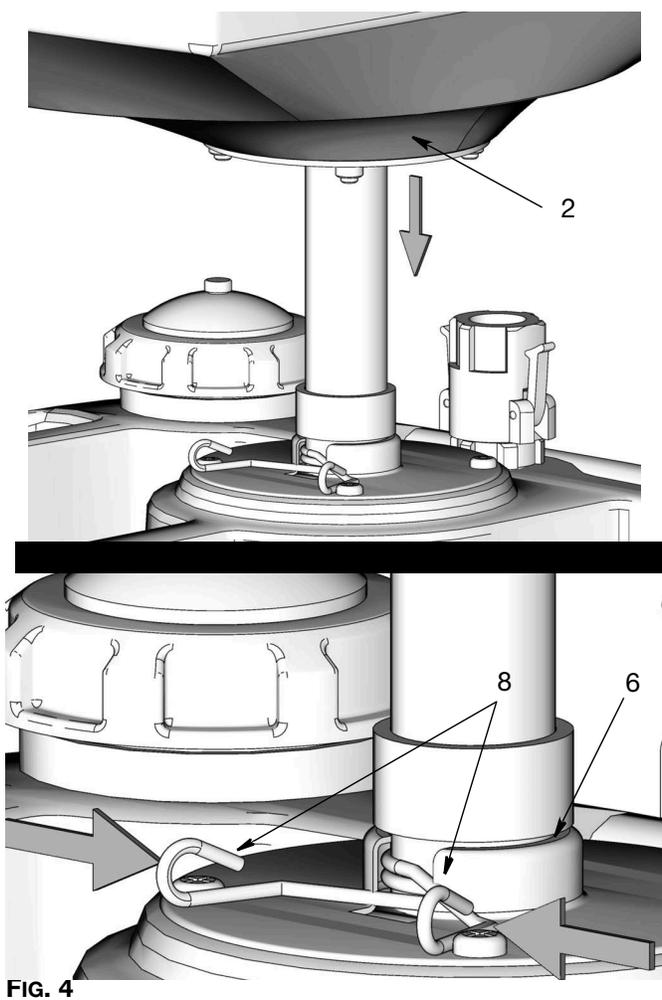

FIG. 4
<p>When compressing the torsion spring (8) do not allow the funnel assembly (2) to freely drop. This could result in your fingers or hand being pinched between the funnel assembly (2) and funnel collar (6). Always support the funnel with one hand whenever you compress the torsion spring (8) to change the funnel assembly position. See FIG. 4.</p>
1. When the collection container is in the correct location for draining, set the funnel assembly (2) height.
2. Squeeze the torsion spring (8) with one hand while you use your other hand to raise or lower the funnel assembly (2) into the desired position.